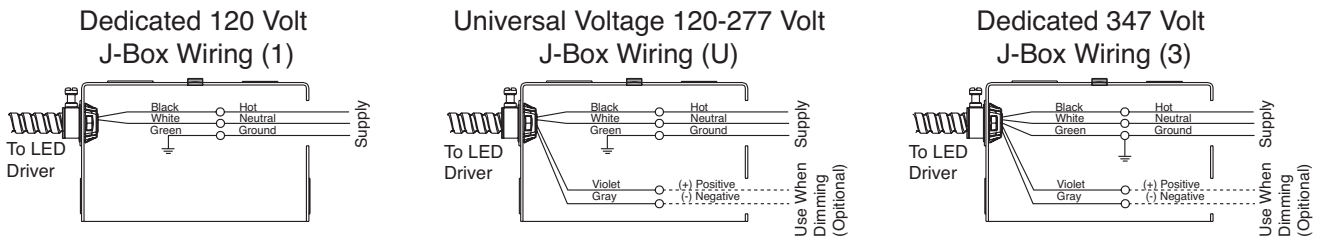

Figure 3
Step 5. Connect supply wires to the retrofit trim wires (Refer to Figure 3).